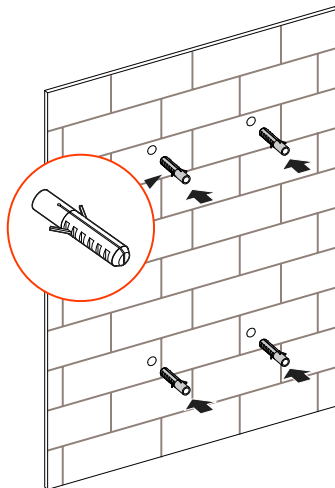

Figure3-9 Install expansion plugs
Step 3 Install the equipped 4 expansion plugs into the holes, as shown in Figure3-9.